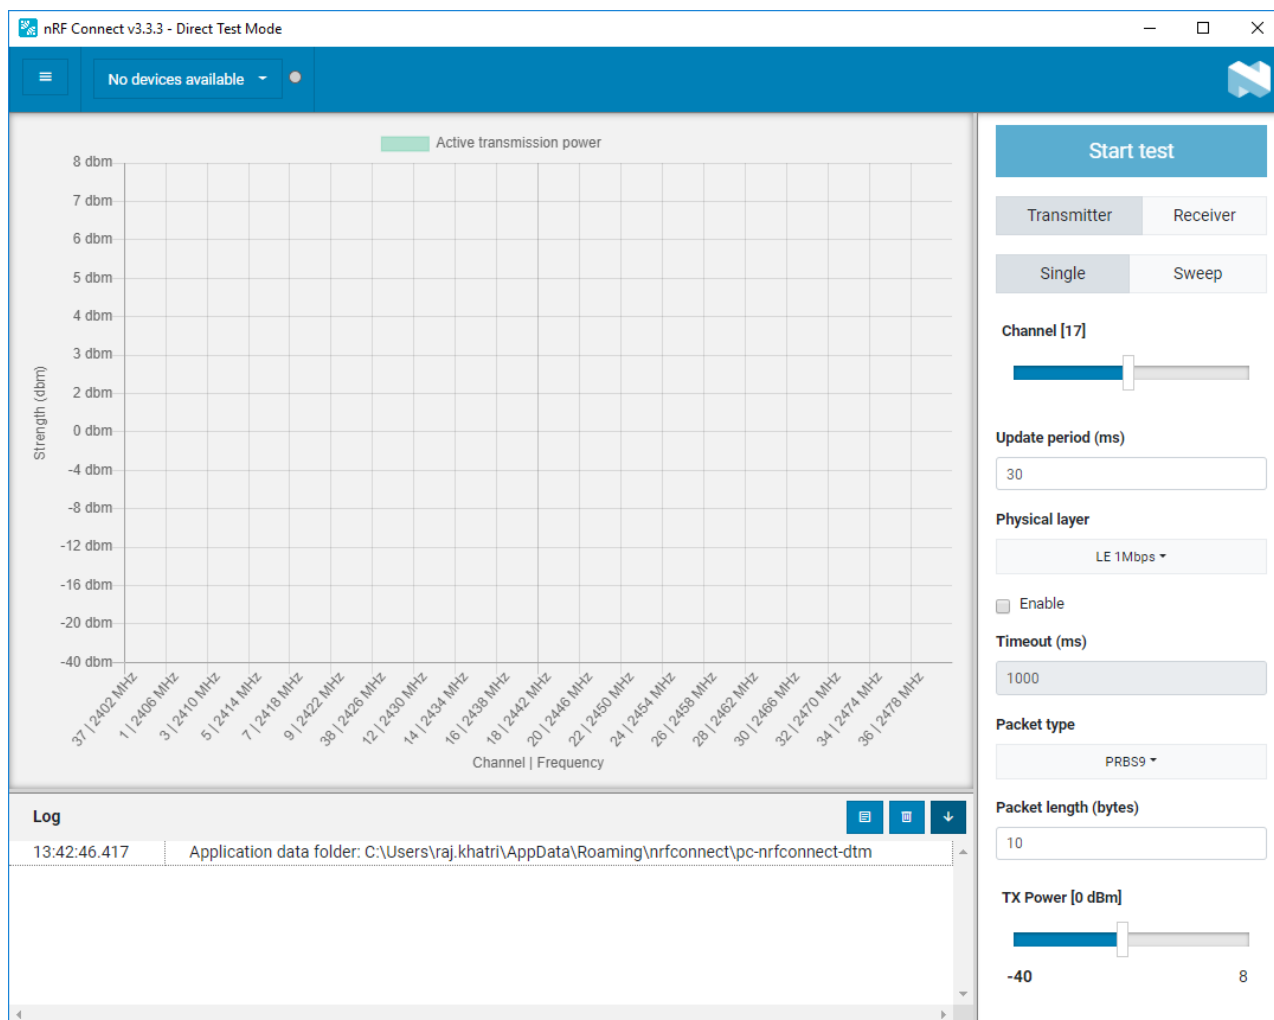

Figure 6: Opening the Nordic nRF Connect Direct Test Mode tool
2. Then click **Open** in **Direct Test Mode** tool, as shown in Figure 6.